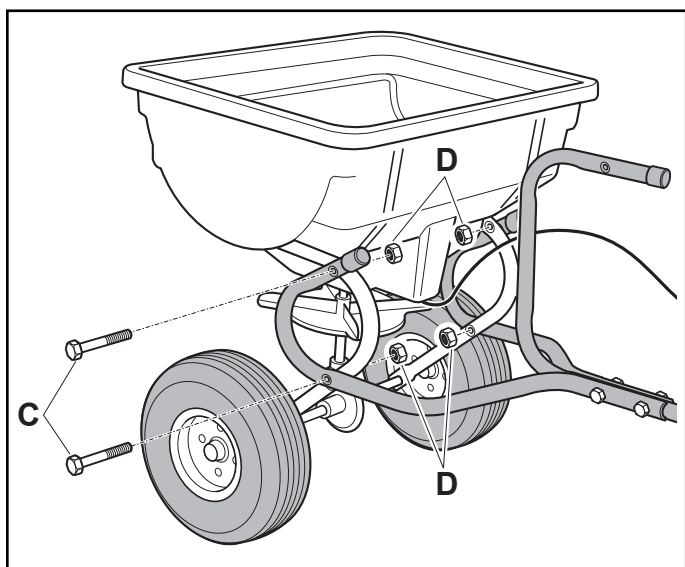

FIGURE 6
- Attach the (RH) and (LH) hitch tubes to the frame tube using four 1/4" x 2" hexbolts (C) and 1/4" nylock nuts (D). **Tighten.** See figure 6.